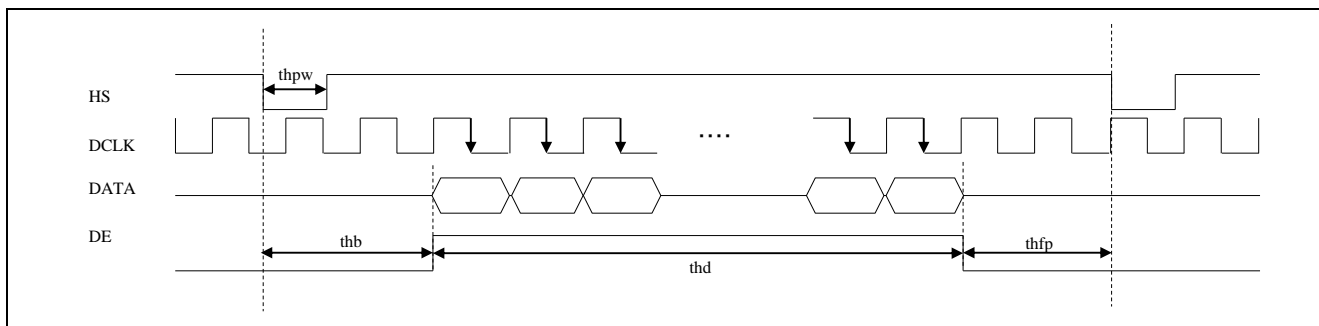
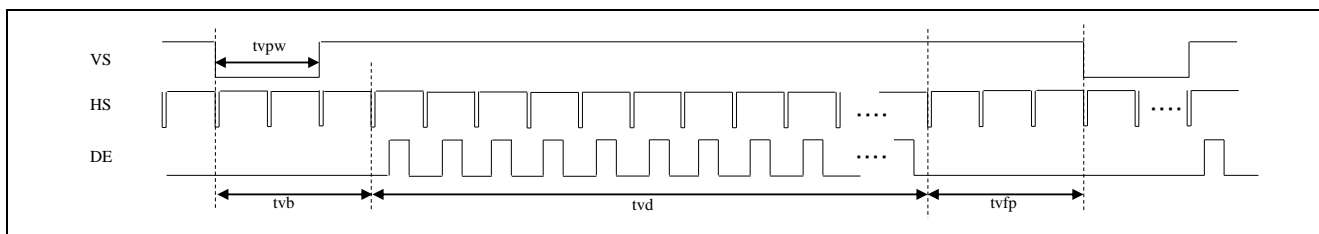
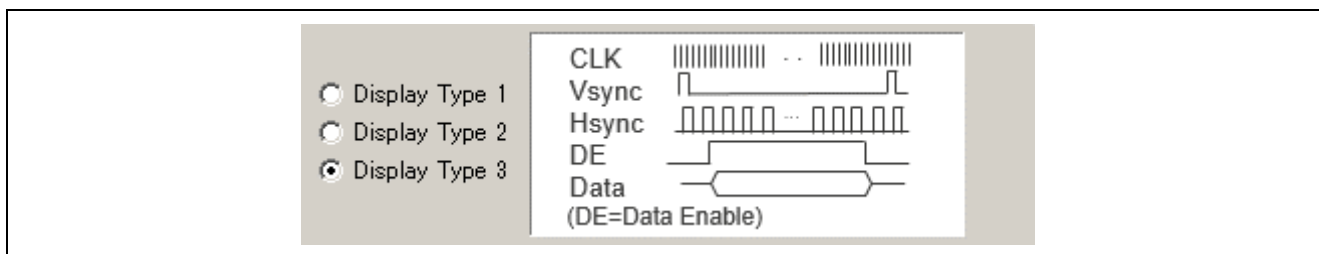
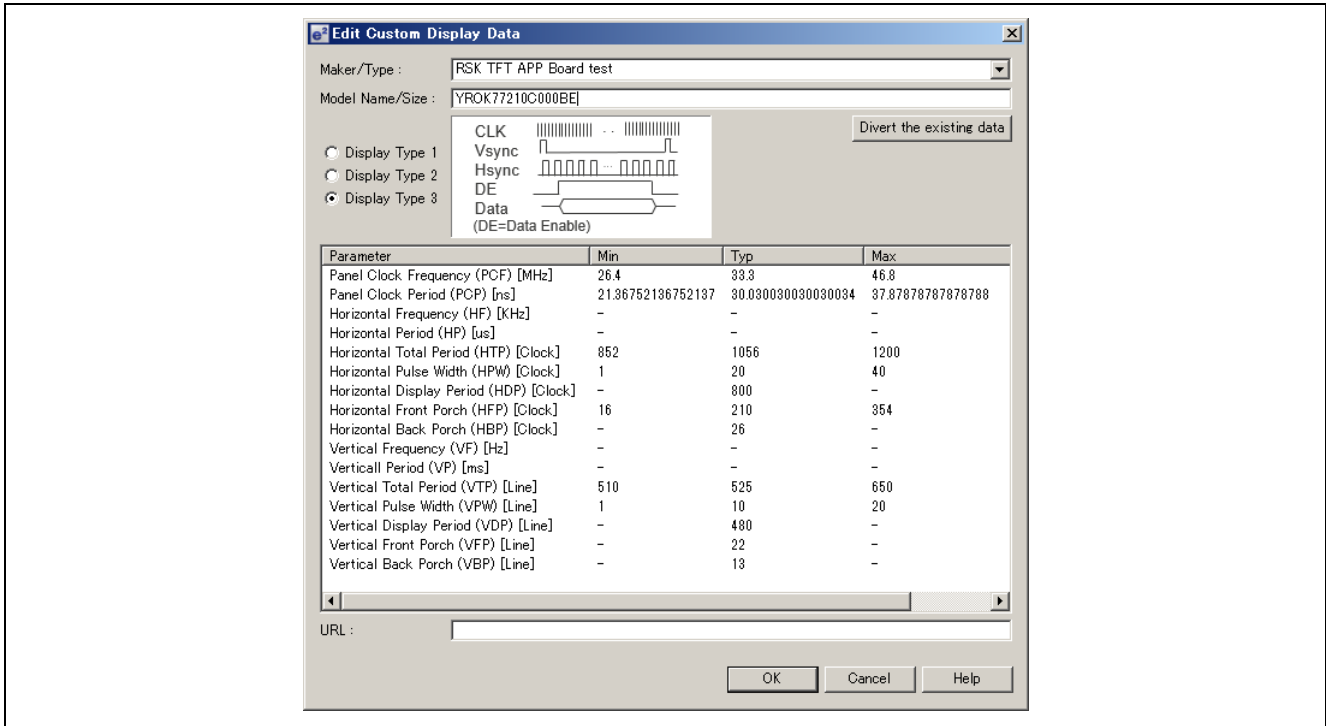

Figure 5.9 Horizontal Input Timing Diagram
Figure 5.10 Vertical Input Timing Diagram
Figure 5.11 Display Type Selection
Figure 5.12 Result Inputting Control Timing Values
Figure 5.9 and Figure 5.10 show horizontal and vertical input timing charts for the RSK TFT APP board (YROK77210C000BE) used in the present case. The horizontal sync (Hsync) signal, vertical sync (Vsync) signal, and display enable (DE) signal shown in these timing charts are required, so select display type 3 (Figure 5.11).
Figure 5.9 and Figure 5.10 show horizontal and vertical input timing charts for the RSK TFT APP board (YROK77210C000BE) used in the present case. Table 5.3 and Table 5.4 list the input timing of the horizontal and vertical sync signals. After inputting these control timing values, the result is as shown in Figure 5.12. The values input under **Typ** are used for timing control, and the values input under **Min** and **Max** are used to confirm that values are within the allowable range when the GUI is used for timing adjustment in QE for Video Display Controller 5.
Note: In Figure 5.12 the **Typ** values for Horizontal Pulse Width and Vertical Pulse Width are midway between the **Min** and **Max** values. Also, the values listed in Table 5.3 and Table 5.4 should be input for HS Blanking and VS Blanking, but since these HS Blanking and VS Blanking values include the HS pulse width and VS pulse width, respectively, the **Typ** values for Horizontal Pulse Width and Vertical Pulse Width are subtracted and the resulting values are input as the **Typ** values for Horizontal Back Porch and Vertical Back Porch, respectively.
Based on Figure 5.9 and Figure 5.10, the polarity of the control signals is listed below.
Regarding the data output timing, since sampling occurs at the falling edge of the DCLK signal, according to Figure 5.9, the timing of data output on the VDC5 side is at the rising edge of the panel clock.